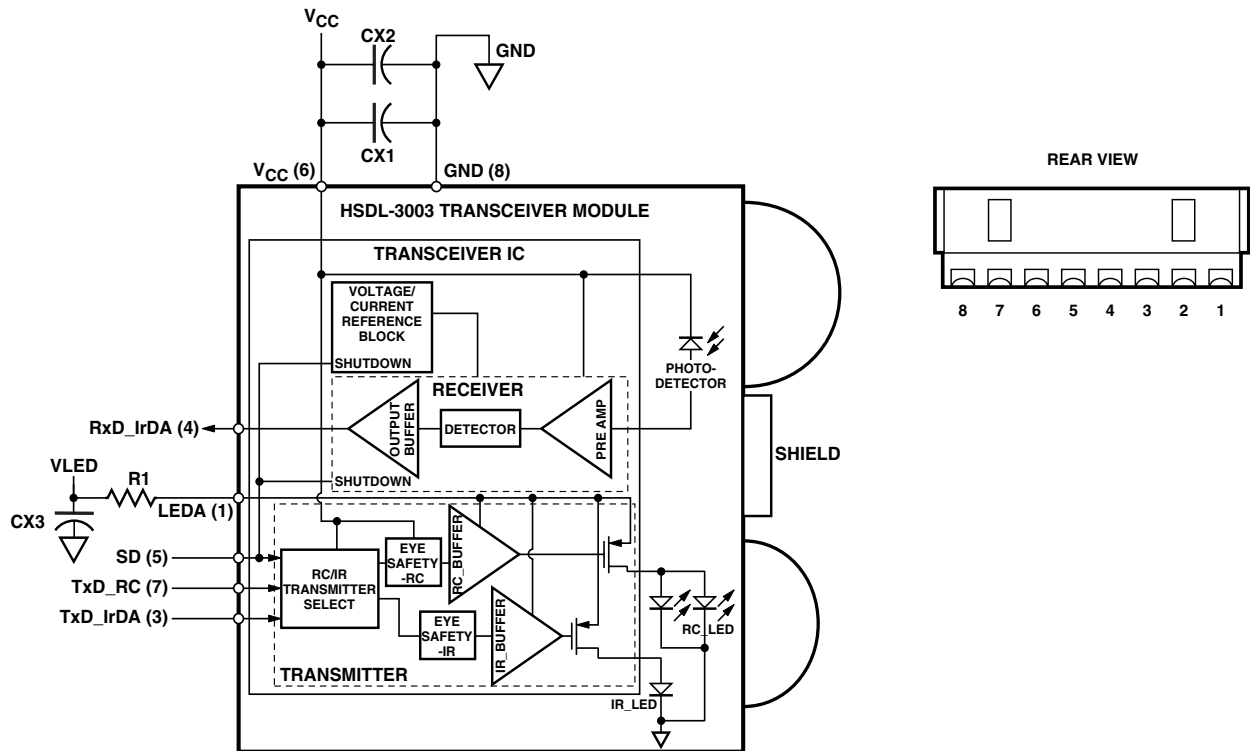

Figure 1. Functional block diagram of low power IrDA link distance and remote control.
- The supply rejection performance can be enhanced by including CX2, as shown in Figure 1, in environment with noisy power supplies.